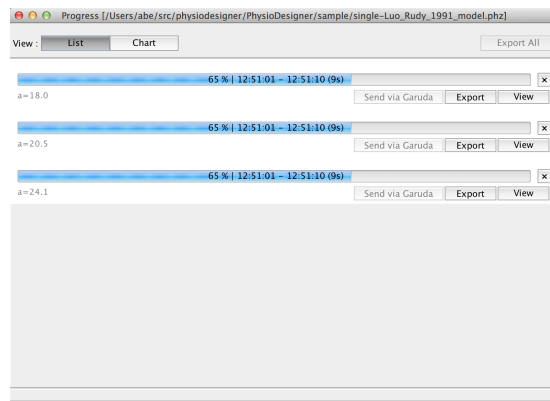

Figure 3.4: The detail window during simulation.
To start simulation, use the menu “Control” → “Run” or button “Run” on the control panel. It kicks simulation jobs for all loaded models. Users can monitor the progress in total on the control panel, as well as the one for a single job on the detail windows like Fig. 3.4.
2. Push button “Export all” (see Fig. 3.4)
2. Push button “Send via Garuda” (see Fig. 3.4)